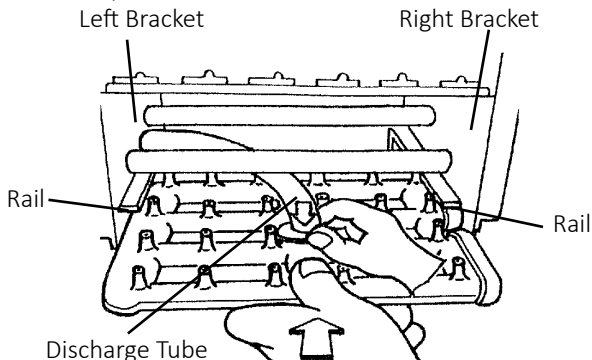

Fig. 35
12. Slide in the spray assembly along the rails on the left and right brackets. See Fig. 35. Connect the discharge tube securely to the spray assembly; a loose fitting may cause a water leak.